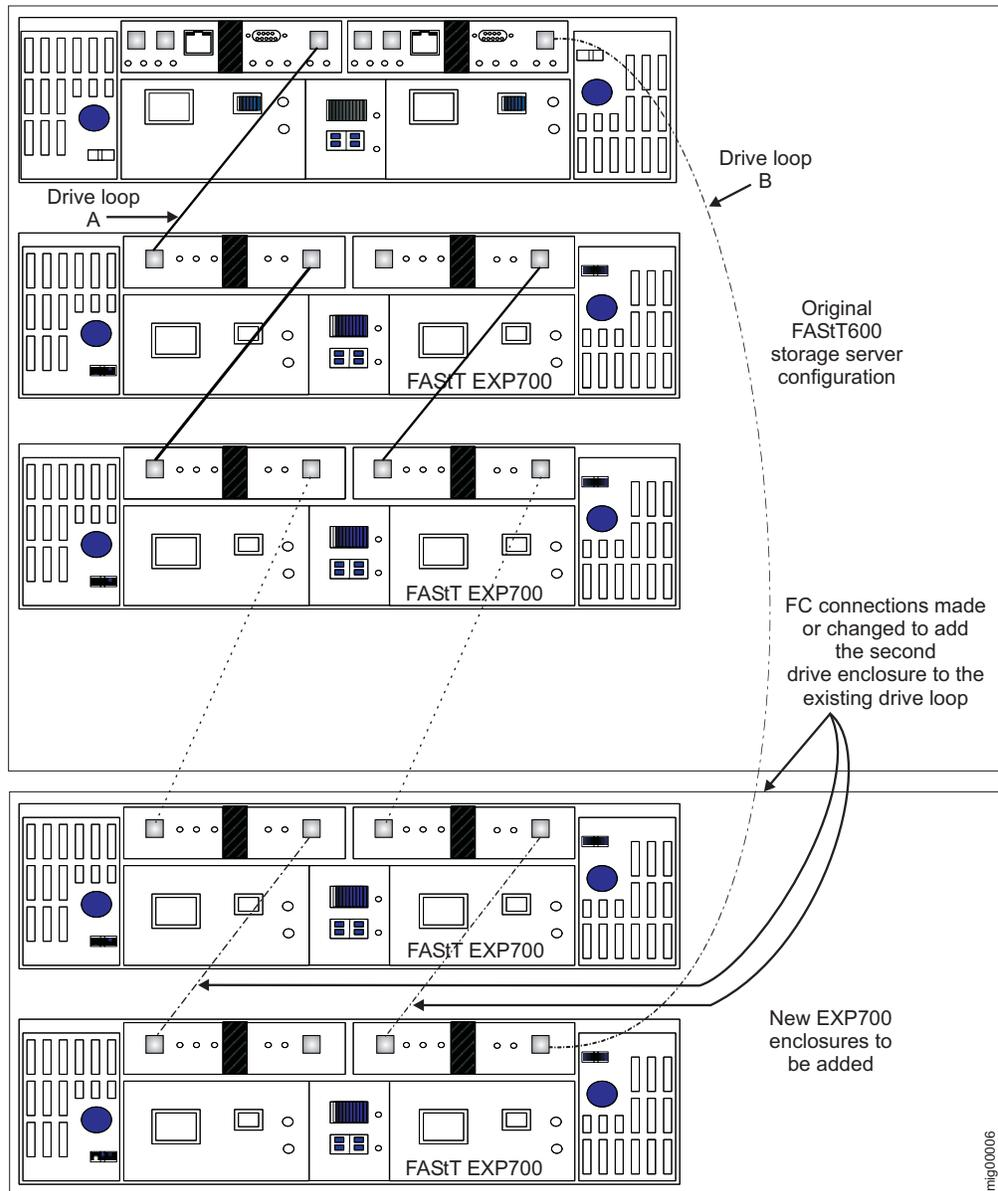

Figure 8. Cabling a second drive enclosure to a functioning drive loop
2. To connect additional storage expansion enclosures to the functioning drive loop pair, perform Activity 1: Preliminary activities step 2 on page 19 through step 5 on page 20, Activity 2: Cabling new storage expansion units step 1 on page 21 through step 6 on page 21, and step 1 (immediately preceding this step) for each additional storage expansion enclosure that you intend to add . (See Figure 8 on page 26.) When you have completed adding enclosures, proceed to Activity 5: Re-enabling drive migration settings step1 on page 27 to re-enable the drive migration settings.